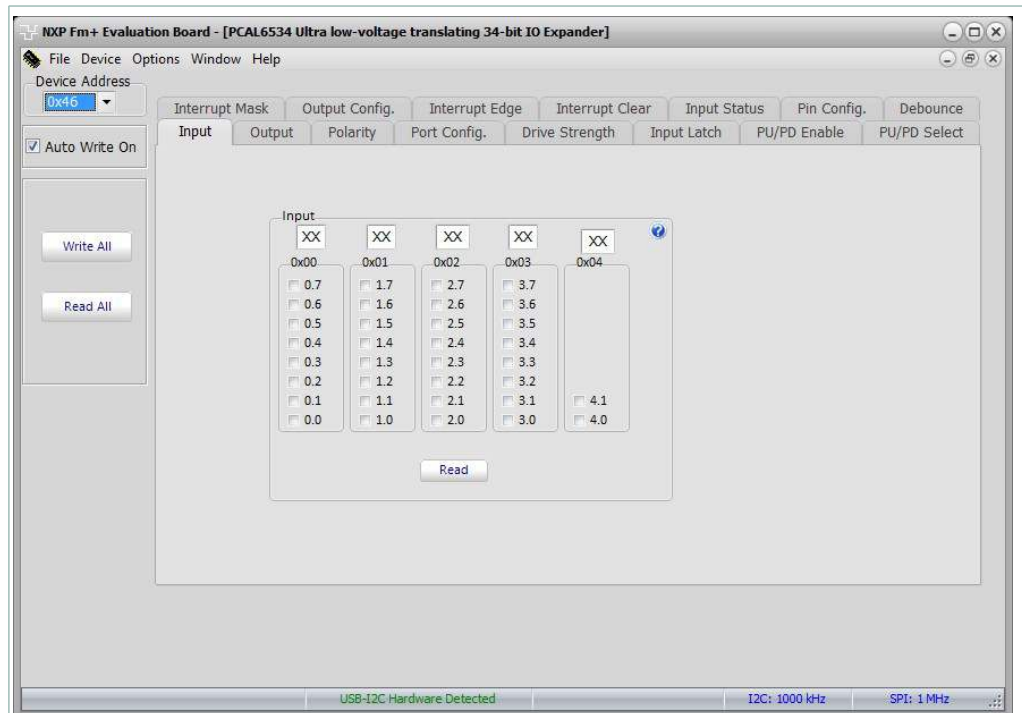

Figure 10. Device configuration screen for registers 00-04 hex
- Input registers read are shown in Figure 10.